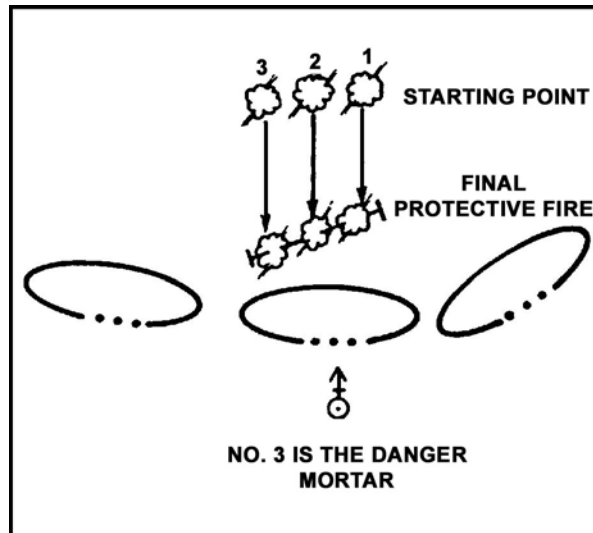

Figure 3. Determination of danger gun.
- a. Upon receiving the initial fire command, the entire section fires one round (HE) with delay fuze.
- b. The FO observes the impact of the rounds and determines which mortar's round impacted closest to the FPF line or to friendly forces. This mortar is referred to as the danger gun (Figure 3).